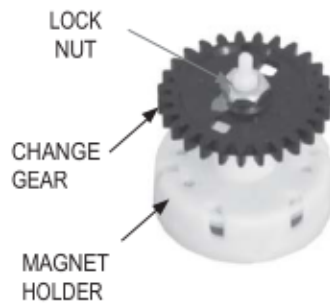
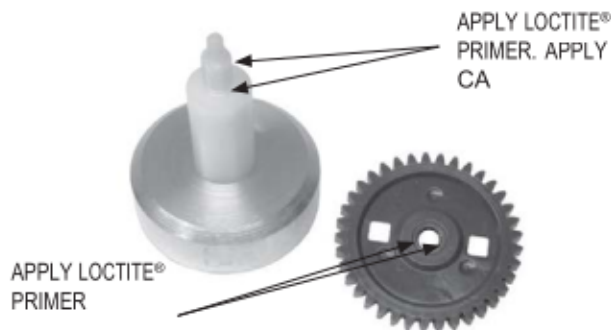

Figure 22. Magnet holder, change gear, and lock nut
Figure 23. Magnet holder and change gear adhesive application for 3.5M meter.
- v) Unscrew the change gear from the magnet holder (THREADS ARE LEFT HAND) [Figure 22].
- (1) For 3.5M meters
- (a) Apply Loctite® 770 primer to the threads and mating surfaces of the change gear and the magnet holder [Figure 23]. Allow to dry for 30 seconds.
- (b) Apply Loctite® 406, Loctite® 495, or equivalent Cyanoacrylate adhesive to the threads and mating surface of the magnet holder [Figure 23]. Do not get the adhesive on the small tip of the magnet holder.
- (2) For 5.5M, 9M and 14M meters